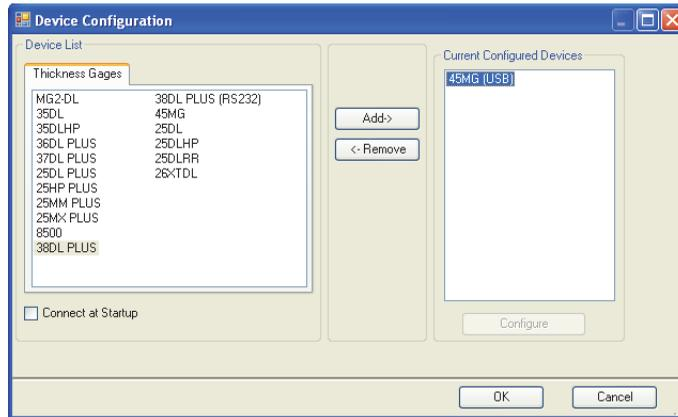

Figure 11-4 The Device Configuration dialog box
- b) In the **Device Configuration** dialog box (see Figure 11-4 on page 188):
- (1) In the **Device List**, select 45MG, and then click **Add**.